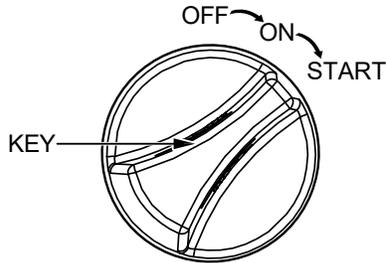

Figure 21. Ignition Key Switch (Start)
4. Insert the ignition key into the ignition switch (Figure 21). While keeping your foot **off** the foot switch, turn the ignition key **clockwise** to the **START** position. Once the engine starts, release the ignition key.